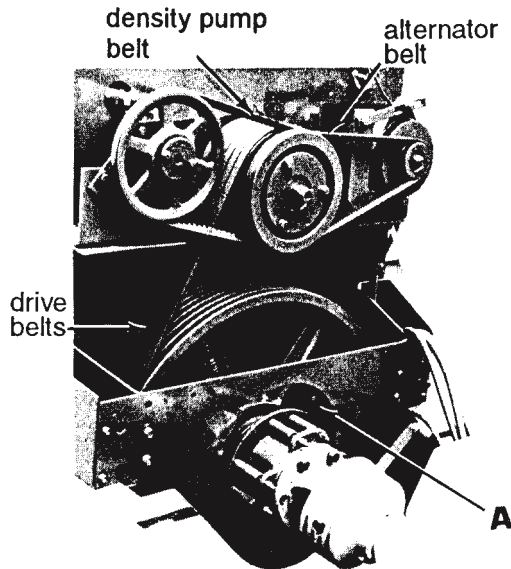
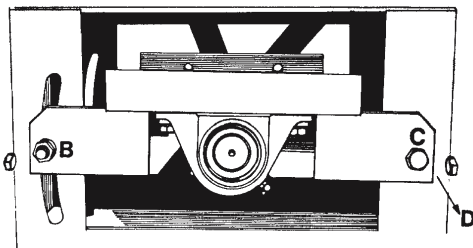

Figure 89 - Mechanical Drive Unit
Figure 90 - Take-up Plate
1. Adjust to obtain a 3/8" deflection when a 15 to 19 lb. force is applied at the center of the span length (see Figure 89). Check each of the six drive belts separately.
2. If adjustment is necessary, loosen clamp bolts (A) (front) and (B) (back) and pivot bolts (C) and (D) (see Figure 89 and Figure 90).
6. Tighten clamp bolts (A) and (B) and pivot bolts (C) and (D), see Figure 89 and Figure 90.
Adjust to obtain a 3/16" deflection when a 2 to 3 lb. force is applied at the center of the span length (see Figure 89).
Adjust to obtain a 3/16" deflection when a 3 to 4 lb. force is applied at the center of the span length (see Figure 89).